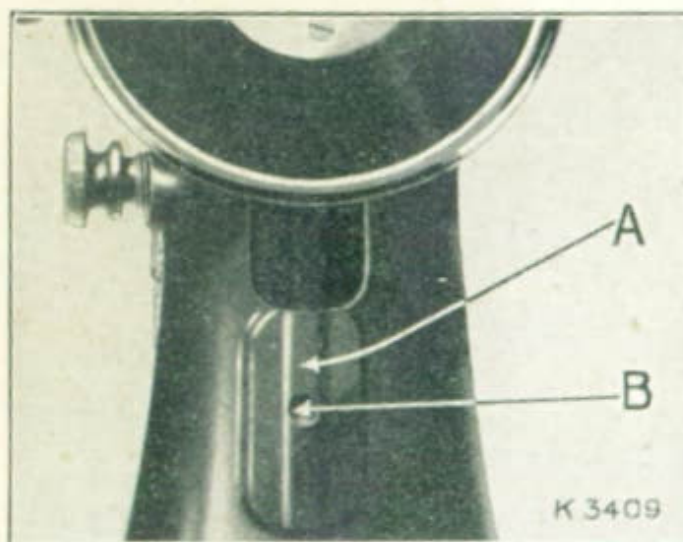
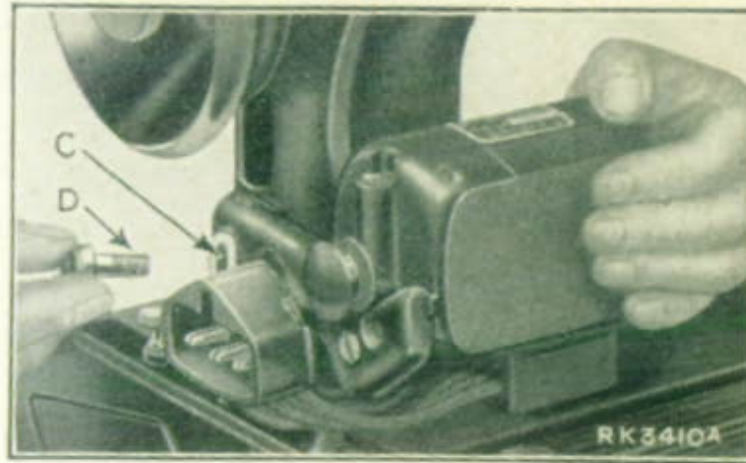
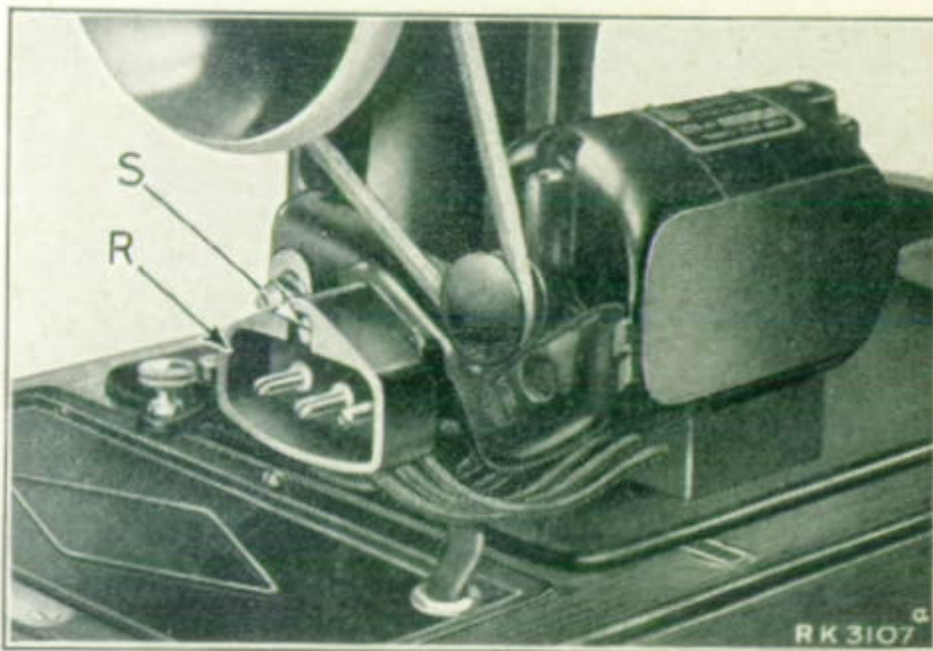
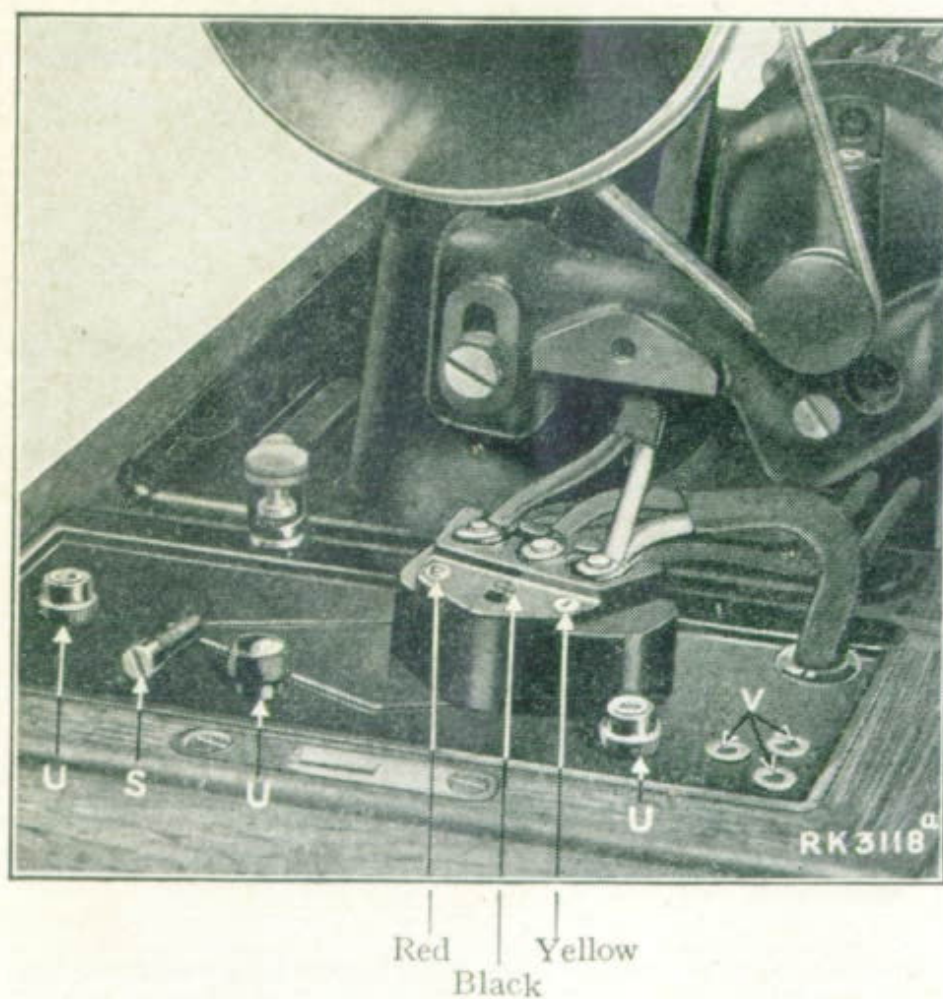

Fig. 1. Removing Japan from Tongue.
Fig. 2. Placing the Motor in Position.
Fig. 6.
Fig. 7. Attaching the Cords.
The motor is attached to the machine arm, as shown in Fig. 2, after first removing the japan from the edges of the tongue (A, Fig. 1) to allow the bracket to slide up and down freely.
Place the motor bracket on the tongue, as shown in Fig. 2, so that the hole (B, Fig. 1) can be seen through the slot (C, Fig. 2). Then insert the screw (D, Fig. 2) and, after moving the motor upwards as far as it will go, tighten the screw.
Remove the terminal block (R, Fig. 6) by taking out the screw (S, Fig. 6). Then remove the three insulated thumb nuts (U, Fig. 7); also the three
brass washers (V, Fig. 7). The terminal block has three pins which are distinguished by the figures 1, 2 and 3, in colour, directly above each pin, and the cords for these pins have either tracer threads or ends of corresponding colours.
Replace the three washers (V) and the thumb nuts (U), tightening the latter securely; then, with the screw (S), fasten the terminal block to the motor bracket, as shown in Fig. 6, and insert the socket plug of the supply lead into the three-pin terminal.